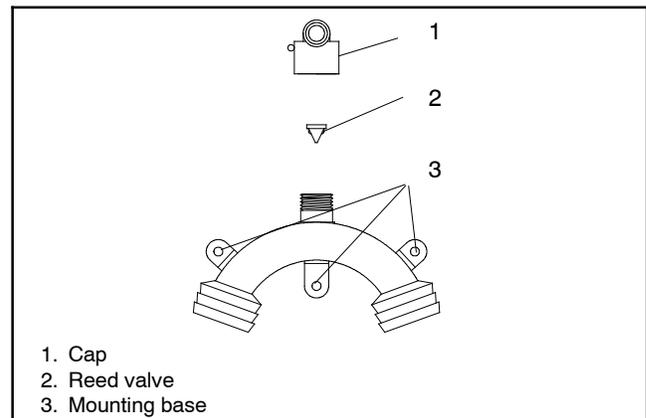

Figure 3-1 Siphon Break
4. Remove the retaining cap and remove the reed valve for inspection. See Figure 3-1.
8. Install the reed valve into the mounting base with the valve downward. See Figure 3-1, item 2.